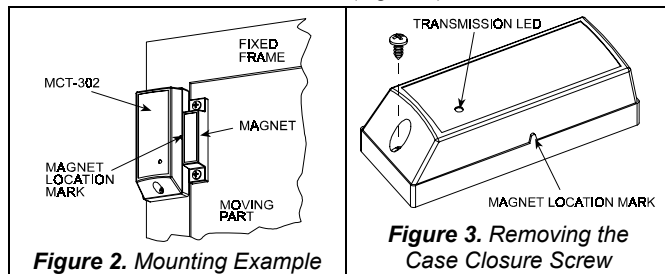

Figure 3. Removing the Case Closure Screw
A. Remove the case closure screw (Figure 3).